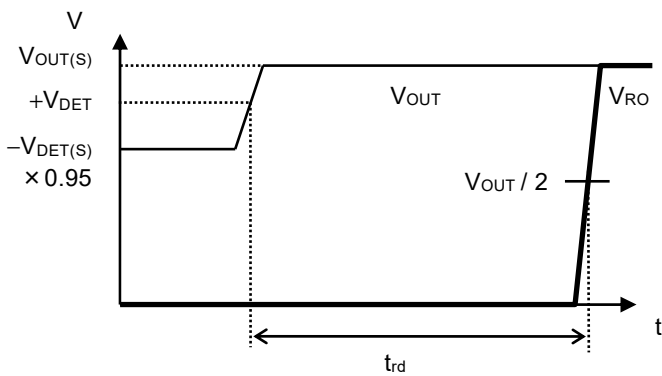

Figure 7 Release Delay Time
*3. The time from when V_{OUT} exceeds +V_{DET} to when the RO pin output inverts (Refer to **Figure 7**). This value changes according to the release delay time and monitoring time adjustment capacitor (C_{DLY}).